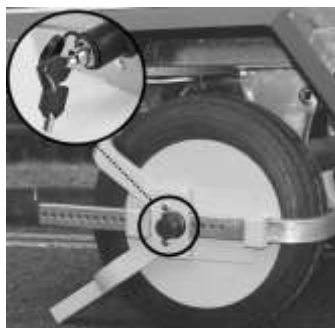

Fig. 4
6. Insert the key (E) into the lock, press it inward and rotate it to lock (Fig. 4).